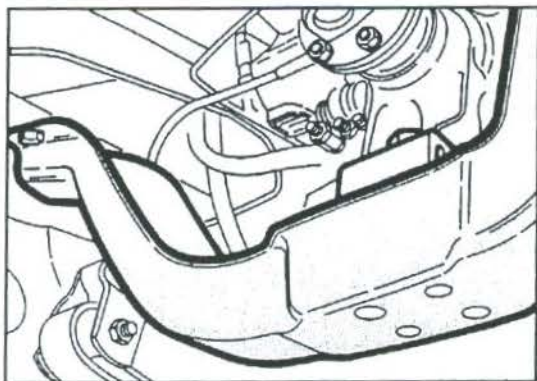

Fig. 3.3 – The crossmember must be removed in order to lower the transmission.
- Support the transmission from below in suitable manner and unscrew the crossmember, shown in Fig. 3.3.